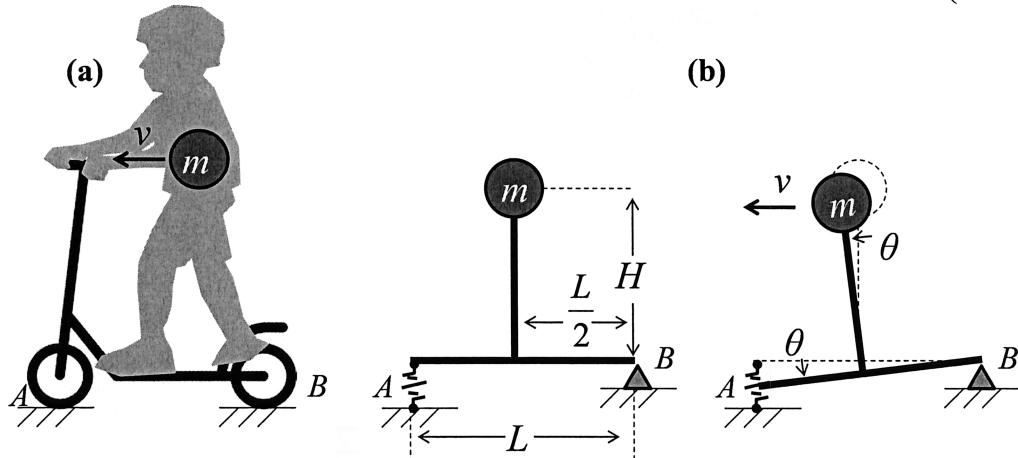

Figure 4
- 3(a) Figure 4(a) shows a rider of mass m on a scooter travelling at an initial speed v before he stopped suddenly the rear wheel. This sudden braking caused a counter-clockwise tilt θ to the rider and the scooter.
To predict the transient of braking motion, Figure 4(b) shows a model consisting of an inverted pendulum rigidly fused to a rotating base. Mass of the scooter is negligible as compared to the rider while its length is L . The stopped rear wheel is modelled as a fixed pivot; whereas, the front wheel is modelled as a spring of spring constant k . This inverted pendulum has a mass m located at a height H from the base and a horizontal distance $L/2$ from the pivot.